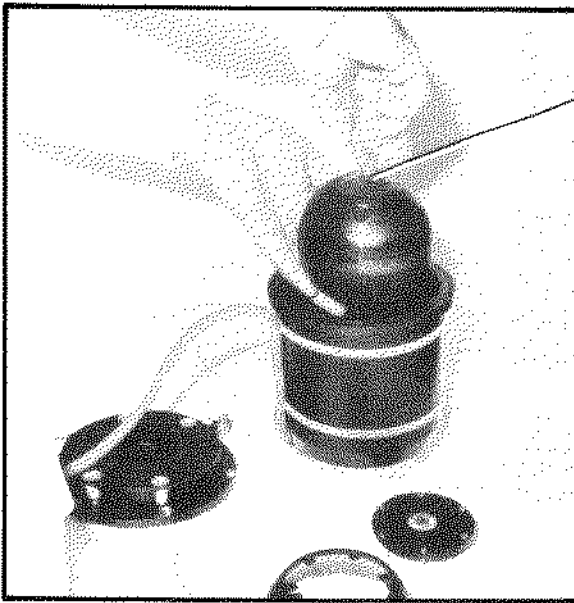

Fig. 3-16:
- Carefully insert the gyrosphere into the outer sphere (cf. Fig. 3-16).